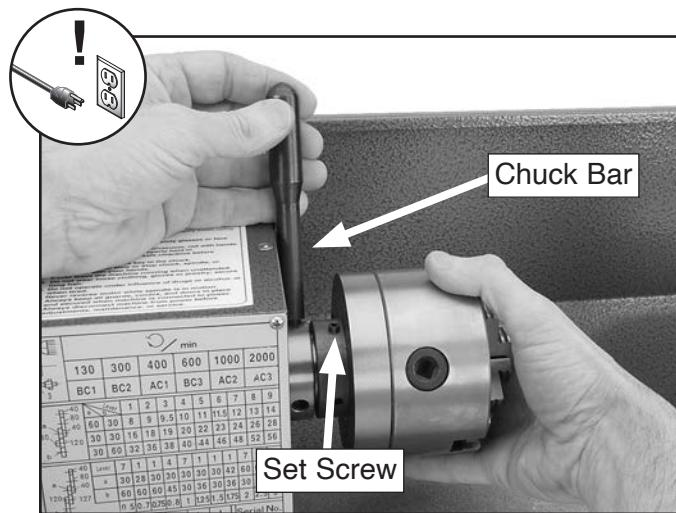

Figure 14. Mounting the 3-jaw chuck.
4. Insert the longer chuck removal bar into the spindle indent to hold the spindle still, then thread the chuck or faceplate onto the spindle and hand-tighten it, as shown in **Figure 14**.
5. Tighten the set screw shown in **Figure 14** to prevent the chuck or faceplate from coming loose when the spindle is rotating in reverse.